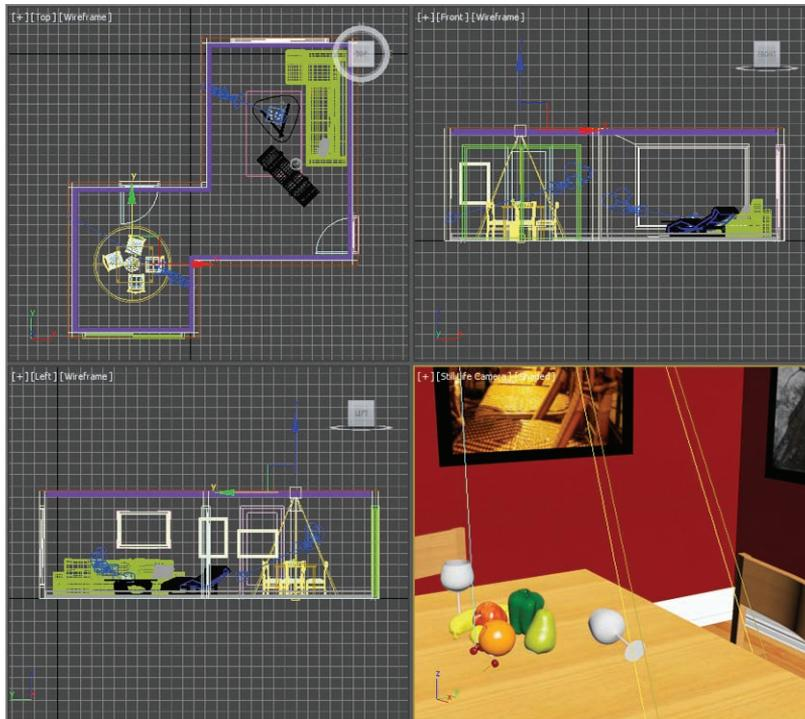

FIGURE 14.11 The spotlight's position in the room
6. Move them so they are over the dining room table in the Top viewport, as shown in Figure 14.11.